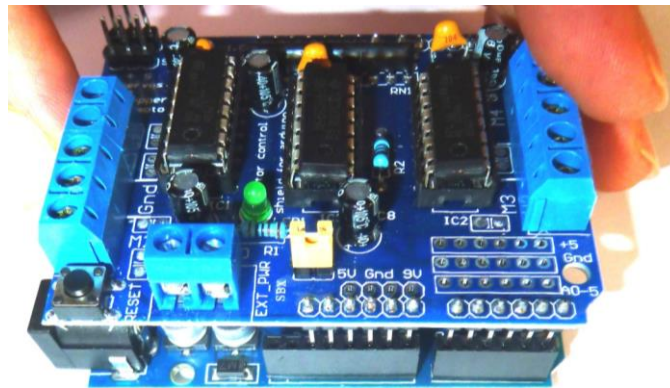

Figure 16: The motor shield attached to the microcontroller
- Attach the motor shield to the arduino microcontroller (see Fig. 16).